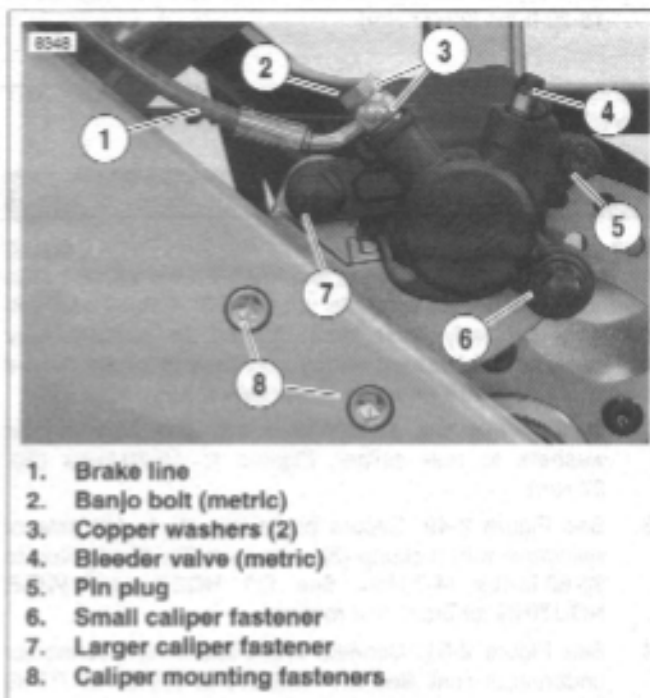

Figure 2-51. Rear Brake Caliper
4. See Figure 2-51. Connect brake line switch connector underneath seat. See D.1 HOSE AND WIRE ROUTING for brake line routing.
3. See Figure 2-51. Remove caliper mounting fasteners (6 and 7).
1. See Figure 2-51. Remove pin plug (5) and pad hanger (metric) to free brake pads.
2. See Figure 2-51. Install caliper assembly on caliper mount. Brake pad surfaces must face rear brake rotor.
- a. Install large caliper screw (7) (metric) tightening to 18-21 ft-lbs (24-28 Nm).
- b. Install small caliper screw (6) (metric) tightening to 14-18 ft-lbs (19-24 Nm).
- c. Install caliper carrier onto swingarm tightening caliper carrier fasteners (8) to 24-26 ft-lbs (33-35 Nm).
3. See Figure 2-51. Connect brake line (1) to caliper using two new copper washers (3) and banjo bolt (2) (metric). Tighten to 16-20 ft-lbs (22-27).